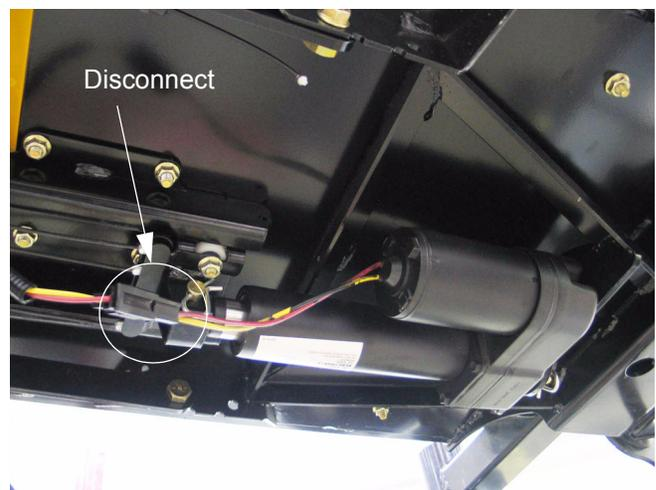

Figure 12.6
- 12.6. Disconnect the electric plug joining the actuator to the rest of the harness. See Figure 12.6.